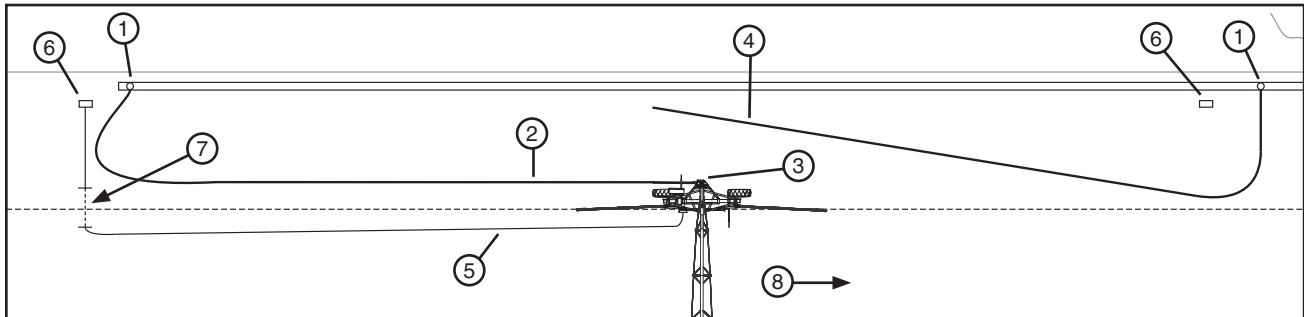

Figure 48-1 1. Shut Off Valve 2. First Hose 3. Swivel Inlet 4. Second hose 5. Electric Cord 6. Power Pedestal 7. Buried Cable 8. Direction of Travel
6. When the machine stops at the end of field/hose stop post, Close the water shut off valve for the first hose. See figure 48-1.